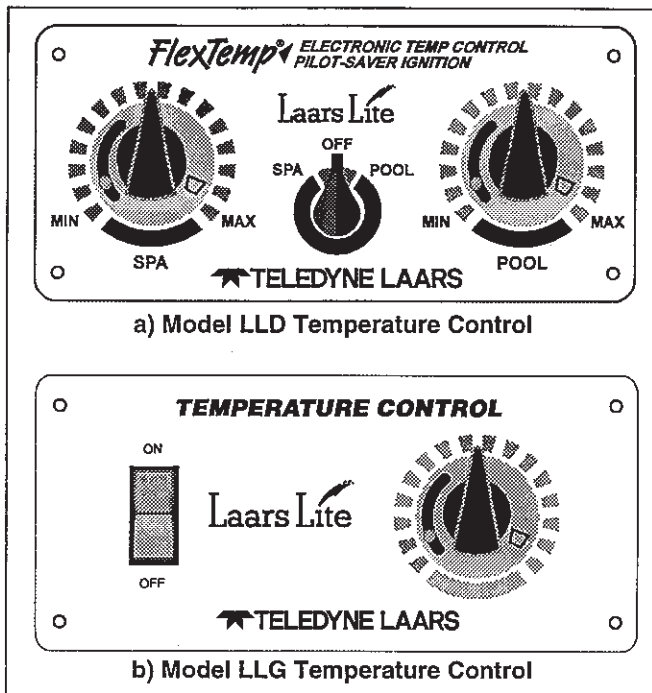

Figure 17. Temperature controls.
1. Turn the control panel rotary switch to OFF (see Figure 17).
2. Set the rotary switch on the temperature control panel (see Figure 17) to OFF.